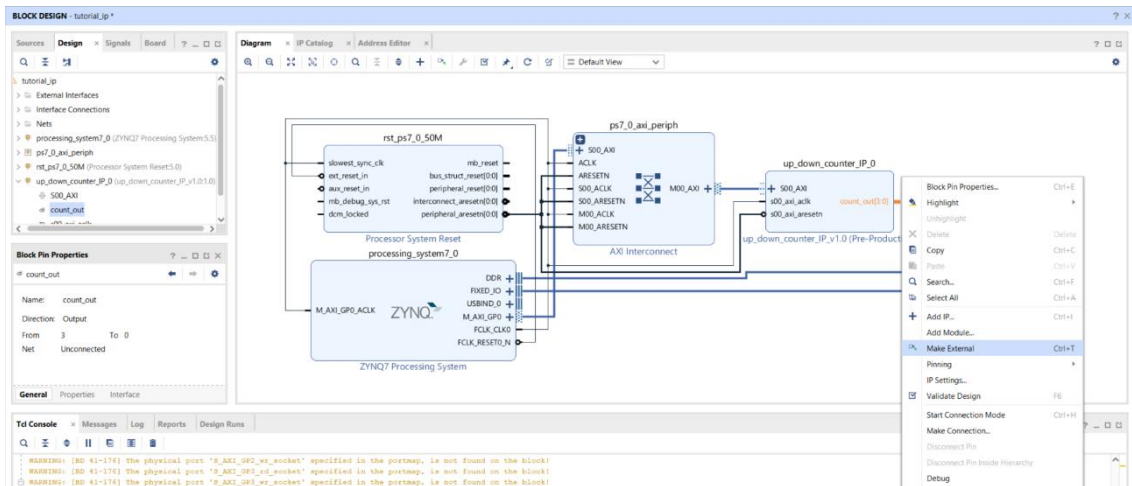

Figure 12
7. Right-click the **count_out[3:0]** output of our IP module and select **Make External** (Figure 12)